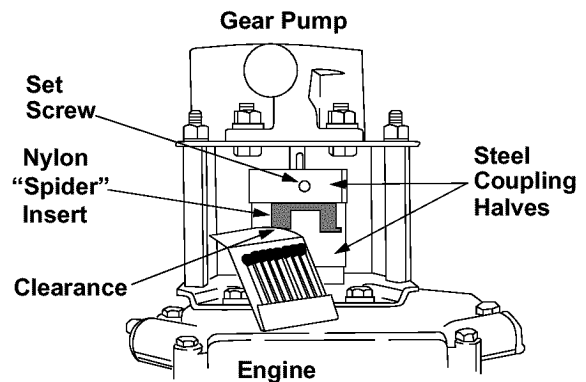

Figure 17
- Set .010” to .060” clearance between the nylon “spider” and the engine coupling half by sliding a matchbook cover between the nylon “spider” and the engine coupling half and moving pump coupling half as needed. Secure pump coupling half with set screw. See Figure 17.